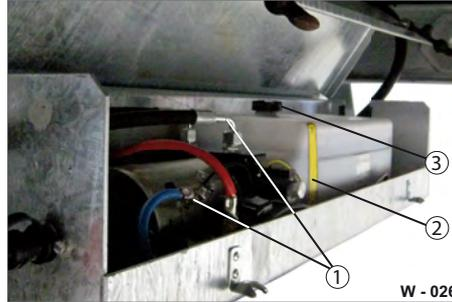

Fig. 30 Checking the oil fill quantity
- ▶ Check the fluid level in the hydraulic fluid tank (Fig. 30/1).